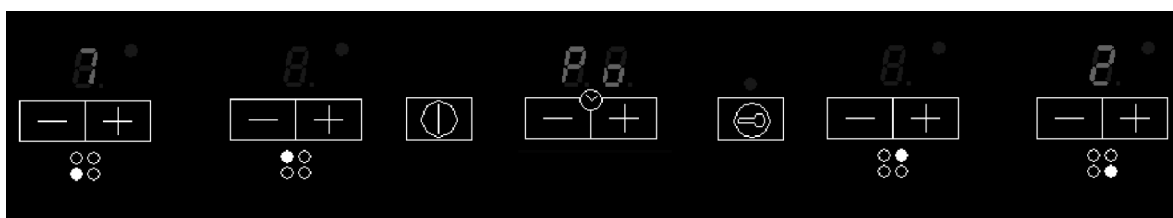

FIG. 18
- after performing this operation, an acoustic signal sounds and the current Power Limit of the hob will be shown on the heating element display (see fig. 18).